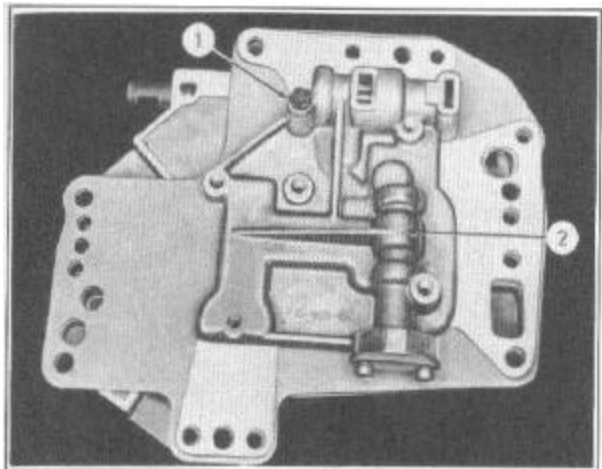

FIGURE 63
4. Remove the one cap screw (1), Figure 63, attaching the converter valve body (2) to the valve block.
10. Install the cap screw (1), Figure 63; tighten screw finger tight.